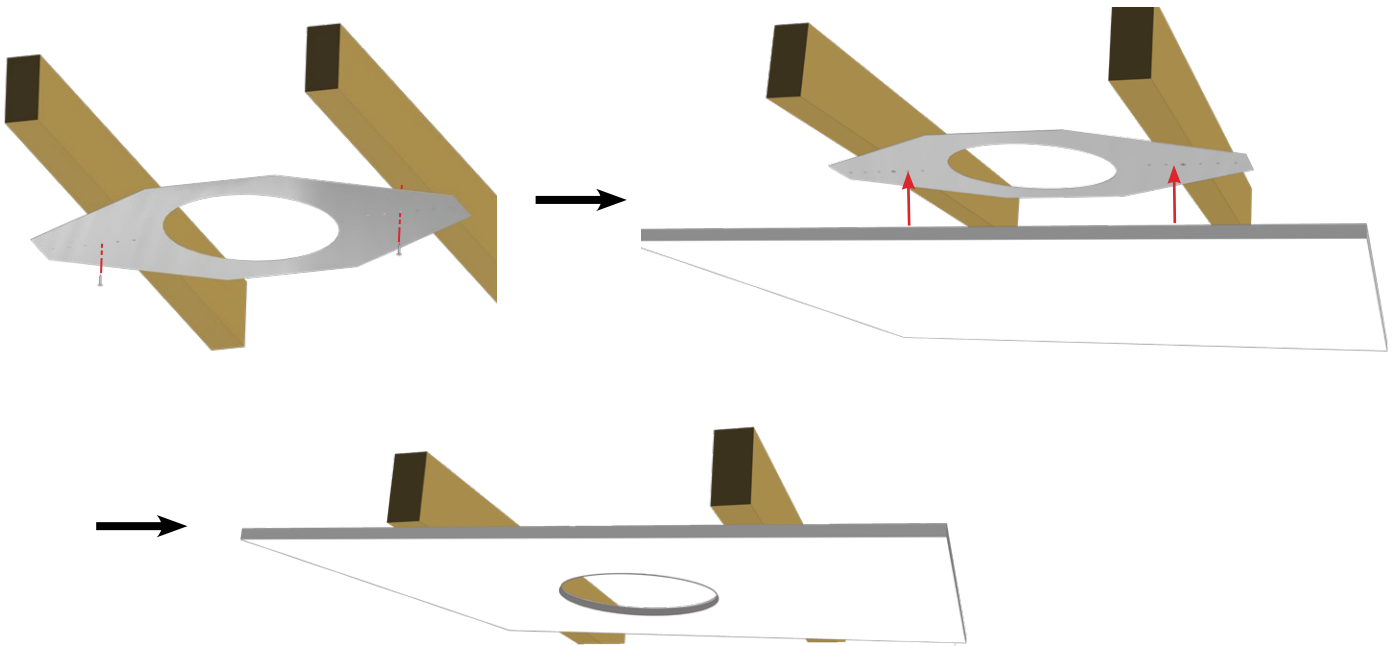

Figure 8. Install bracket and drywall or sheet rock
1. The appropriate size of new construction brackets (SPA-NCxxx) should be utilized and secured to the ceiling structure (Figure 8).